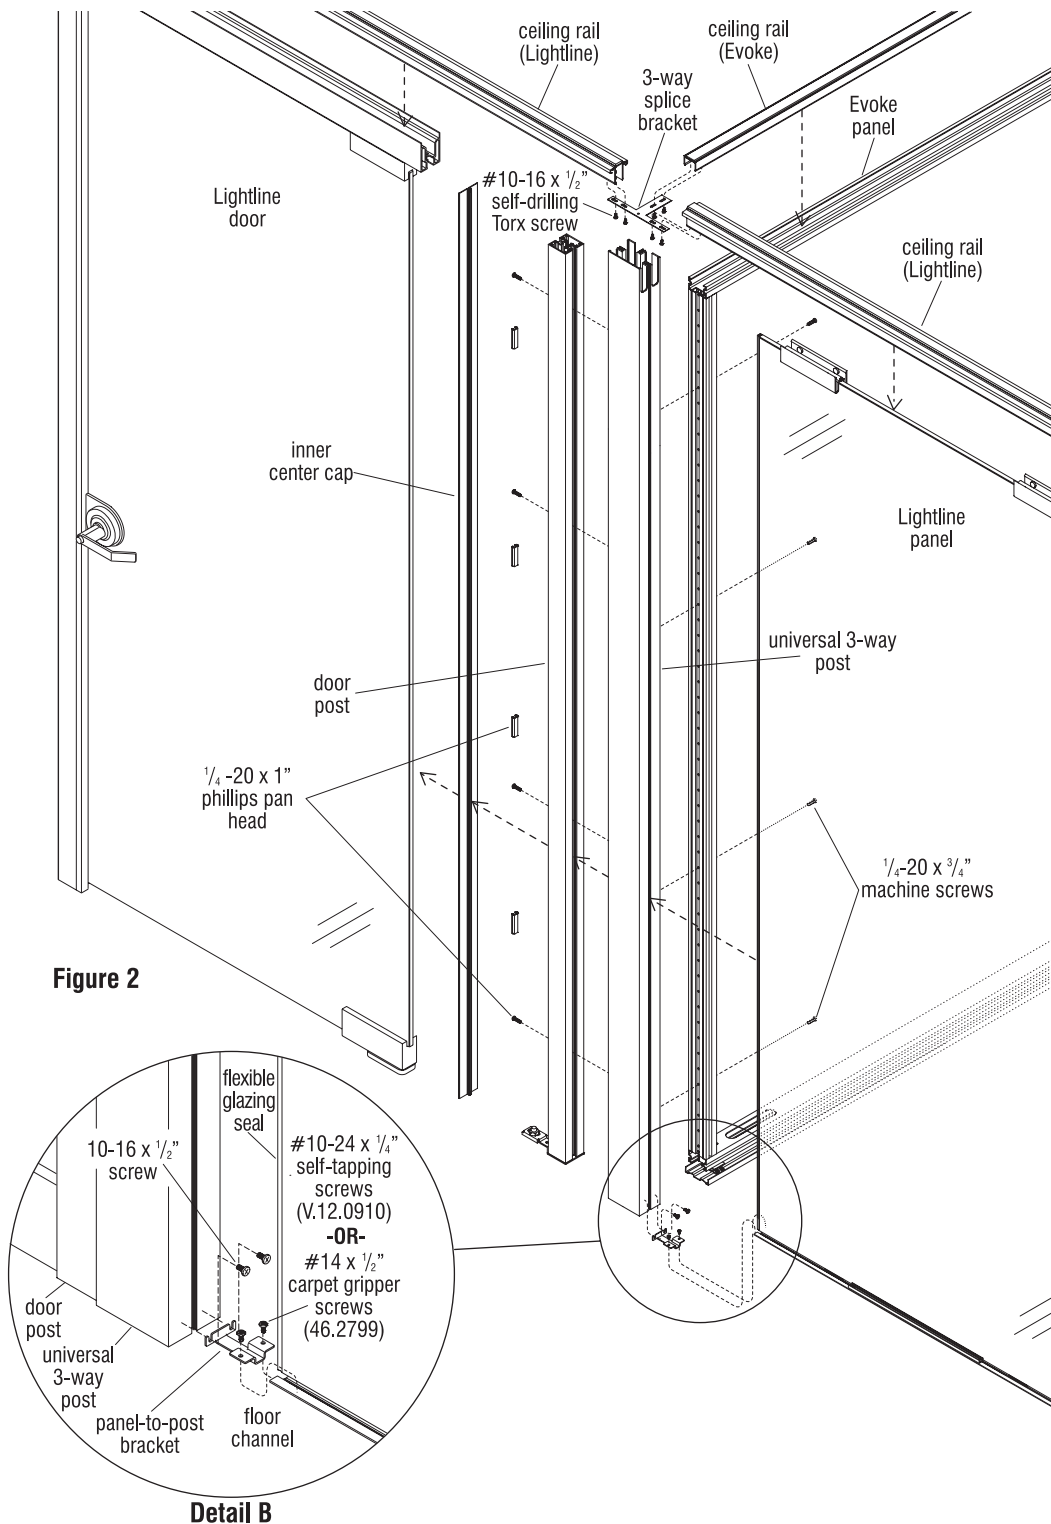

Figure 2
2. Position the 3-way splice bracket between the Evoke and Lightline ceiling rails. Then secure the bracket to both ceiling rails using six #10-16 x $1\frac{1}{2}$ " self-drilling screws. (page 41, Figure 2).
7. Once door frame is installed, notice the door post has four holes drilled all the way through the post. The inside face of the post has larger clearance holes that will allow the entire screw to pass through, and the outside face of the post has smaller clearance holes where just the shank of the screw will fit through. With a fully assembled door frame (see appropriate door instructions beginning on page 45) up against the universal post, pass a screw through the clearance hole in the inside face of the door post using a magnetic bit. Twist the screw into the vertical threaded groove in the universal post. Continue to attach the door post to the universal post by installing and tightening the three remaining screws (Figure 2).
8. Reinstall the inner door center cap to conceal the holes and install door leaf. (Figure 2).
10. Next, prepare Lightline panel with flexible glazing seal. See page 30, Figures 1 through 4. Once seal is installed, position a properly aligned and adjusted Lightline panel against the universal 3-way post (Figure 2).
11. Secure Lightline panel to universal post using a panel-to-post bracket. Position the panel-to-post bracket onto the continuous floor channel of the Lightline panel as illustrated. Align the bracket with the floor channel and secure with two screws. If securing over hard floor, use two #10-24 x 1/4" hard floor screws (V.12.0910) (shown). If installing over carpet, use two #14 x 1/2" carpet gripper screws (46.2799). Then secure the panel-to-post bracket to the corner post with two 10-16 x 1/2" screws into the post (Figure 2 & Detail B).
13. Position the Evoke panel to the universal post and secure using four 1/4-20 x 3/4" machine screws evenly spaced (Figure 2).